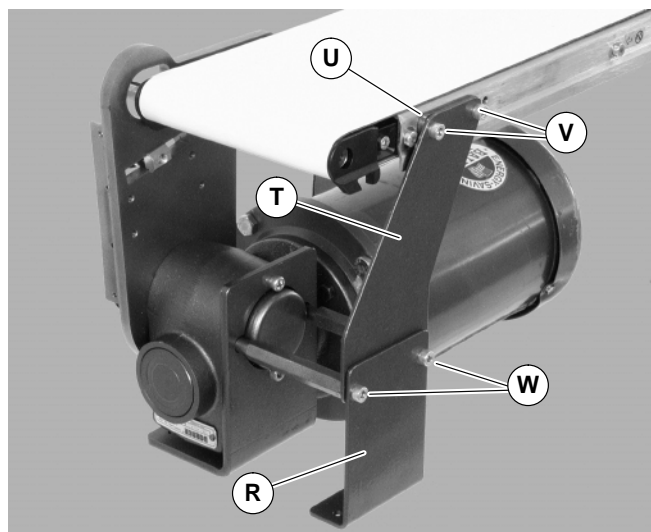

Figure 19
4. Remove screws (V & W of Figure 19) and remove support bracket (R), support plate (T) and spacer (U).